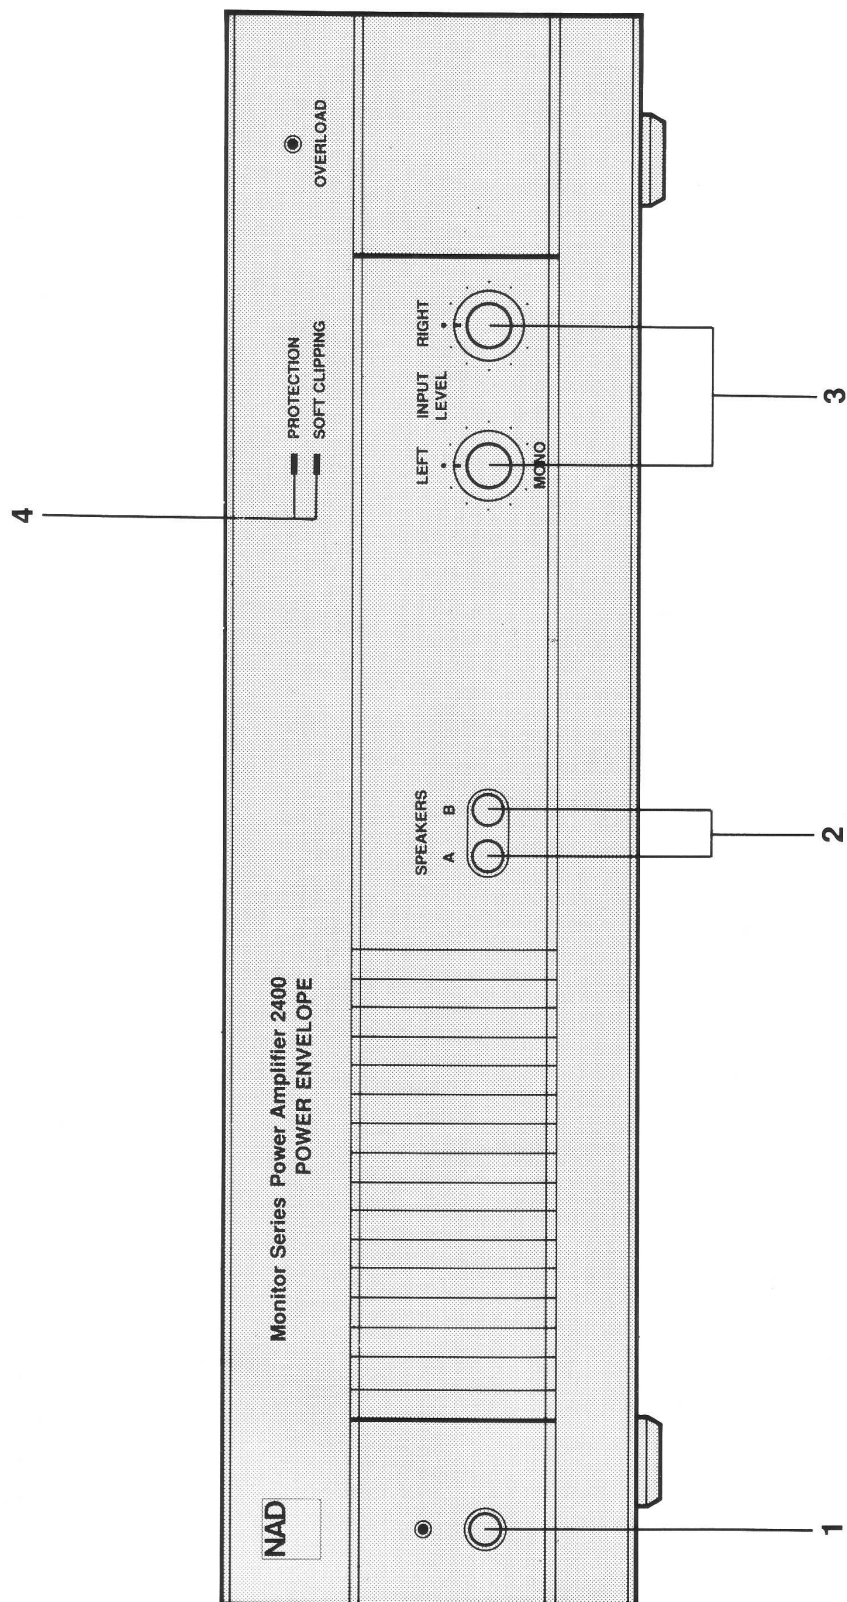

FIGURE 2
(5) After the preceding conditions have been satisfied, re-set the bridging switch. It is held in place by a plastic bracket and screw in a slot. Use a small screwdriver to loosen the bracket screw, turning it about a half-turn counter-clockwise; then slide the switch to ON (MONO). (See Figure 2.) The bracket will move with the switch. Re-tighten the screw to secure the switch in its new position. Finally, turn the power on.
The Impedance switch is held by a slotted bracket which is fastened by a screw next to the switch. To change the impedance setting, use a small screwdriver to loosen the screw about a half-turn counter-clockwise, and then slide the switch. (See Figure 2) The bracket will move with the switch. Tighten the screw to secure the switch in its new position.